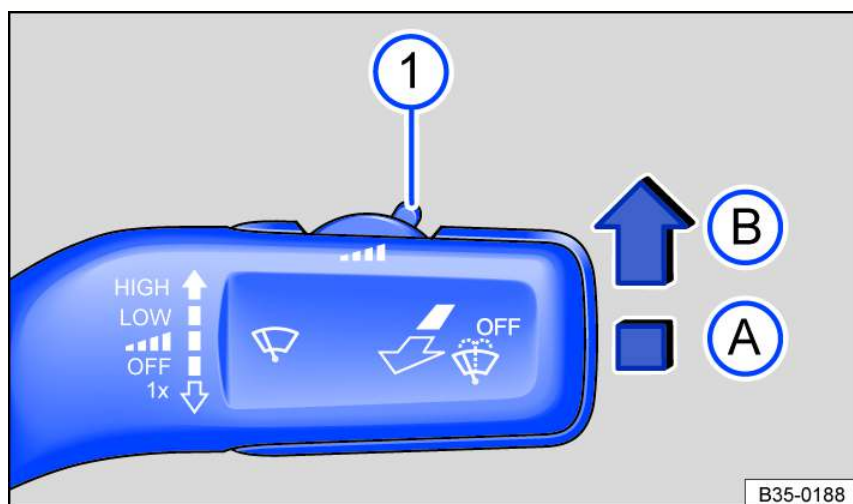

Fig. 77 On the right side of the steering column: windshield wiper lever.
Press the lever into the desired position *fig. 77*:
The sensitivity of the rain/light sensor can be manually adjusted with the switch in the windshield wiper lever *fig. 77* ① ⇒ .